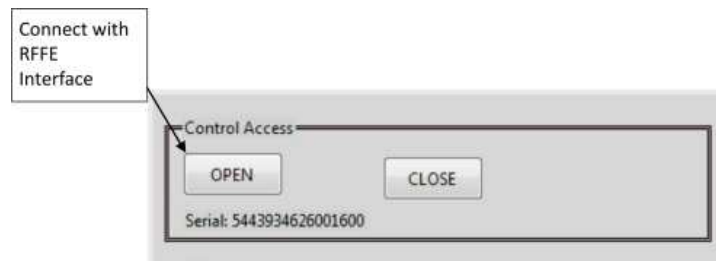

Figure 10. Startup Window for Initializing GUI
4. A window will appear (Figure 10); click “OPEN” to establish connectivity between the LM3279 stand-alone eval board and the LM8335 board.